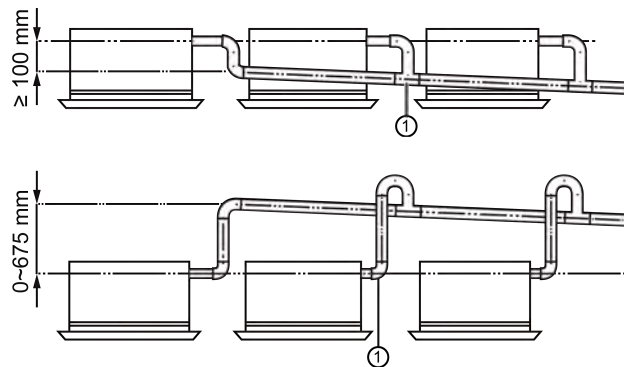

Fig.4.3.2.1
- (1) Drainage pipe should have the same diameter or larger diameter than the connection pipes (PVC pipe, outside diameter 25mm, thickness \geq 1.5mm).
- (2) Keep drainage pipe short and sloping downwards at a gradient of at least 1% for preventing forming air bubbles.
- (3) Insert the drainage hose into drain socket and then tighten the metal clamp securely.
- (4) Warp the sealing pad over drainage hose and metal clamp for heat insulation.
- (5) Make sure to perform insulation work for all drainage holes in the room in order to prevent any possible water dropping due to dew condensation.
- (6) Apply the suitable diameter for converging drainage pipe according to the operating capacity of the unit, as show in Fig.4.3.2.1.